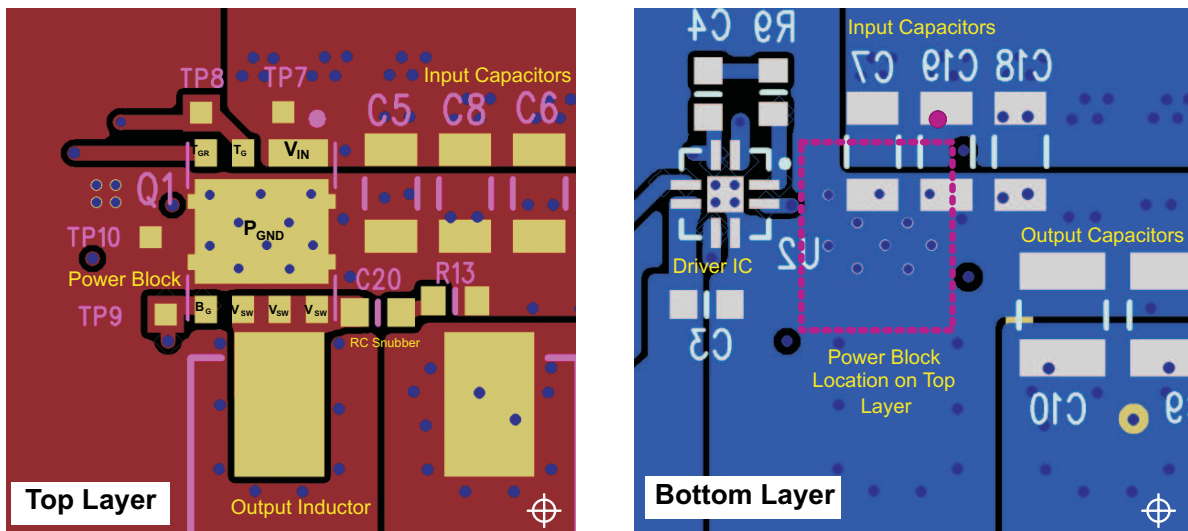

Figure 33. Recommended PCB Layout (Top View)
- The placement of the input capacitors relative to the Power Block's VIN and PGND pins should have the highest priority during the component placement routine. It is critical to minimize these node lengths. As such, ceramic input capacitors need to be placed as close as possible to the VIN and PGND pins (see Figure 33). The example in Figure 33 uses 6  $\times$  10- $\mu$ F ceramic capacitors (TDK Part # C3216X5R1C106KT or equivalent). Notice there are ceramic capacitors on both sides of the board with an appropriate amount of vias interconnecting both layers. In terms of priority of placement next to the Power Block, C5, C7, C19, and C8 should follow in order.
- In the event the switch node waveform exhibits ringing that reaches undesirable levels, the use of a Boost Resistor or RC snubber can be an effective way to reduce the peak ring level. The recommended Boost Resistor value will range between 1  $\Omega$  to 4.7  $\Omega$  depending on the output characteristics of Driver IC used in conjunction with the Power Block. The RC snubber values can range from 0.5  $\Omega$  to 2.2  $\Omega$  for the R and 330 pF to 2200 pF for the C. Refer to TI App Note SLUP100 for more details on how to properly tune the RC snubber values. The RC snubber should be placed as close as possible to the Vsw node and PGND see Figure 33.(1)
- Use the smallest drill size allowed in your design. The example in Figure 33 uses vias with a 10 mil drill hole and a 16 mil capture pad.